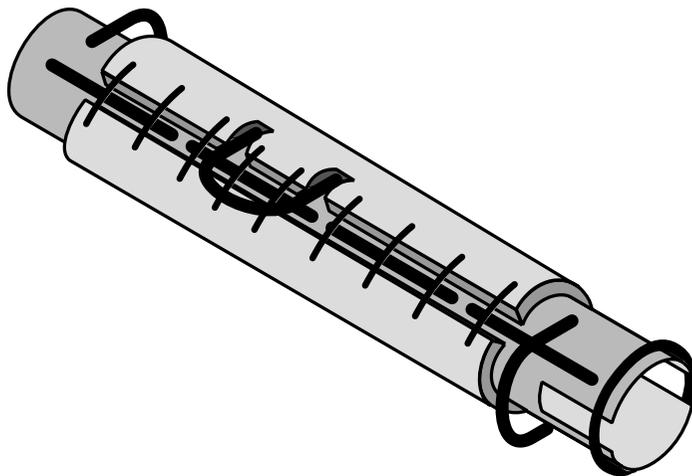

Figure 6: padding tied to hame with wire or cord.
- or fix padding cloth, blanket or carpet to the hames using wire or cord as shown in Figure 6.